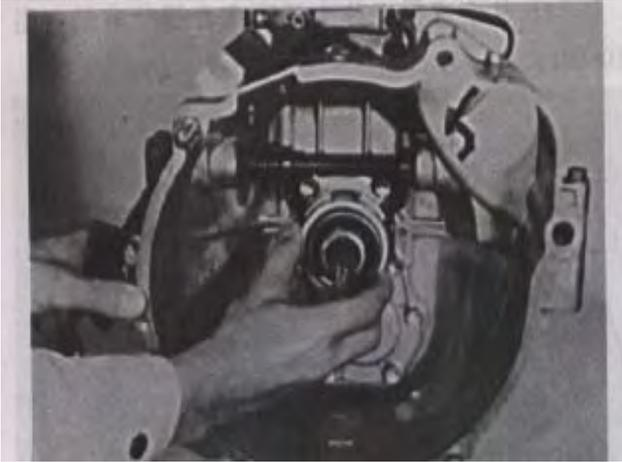

Fig 10-7
- (1) Remove clutch release bearing from input shaft bearing retainer (FIG. 10-7)